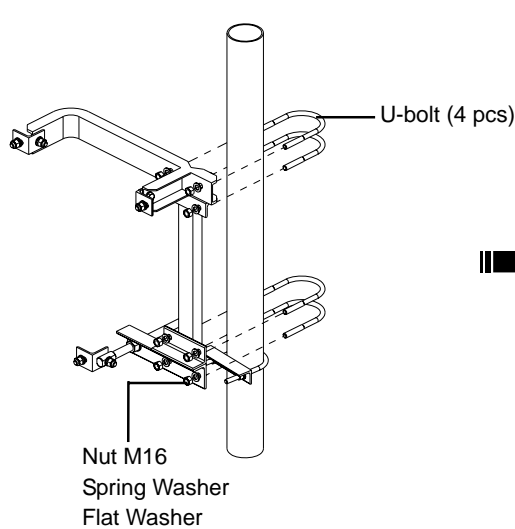

Fig 9.1
9.1 Mount antenna to the pole by 4 U-bolts (shown in Fig 9.1).